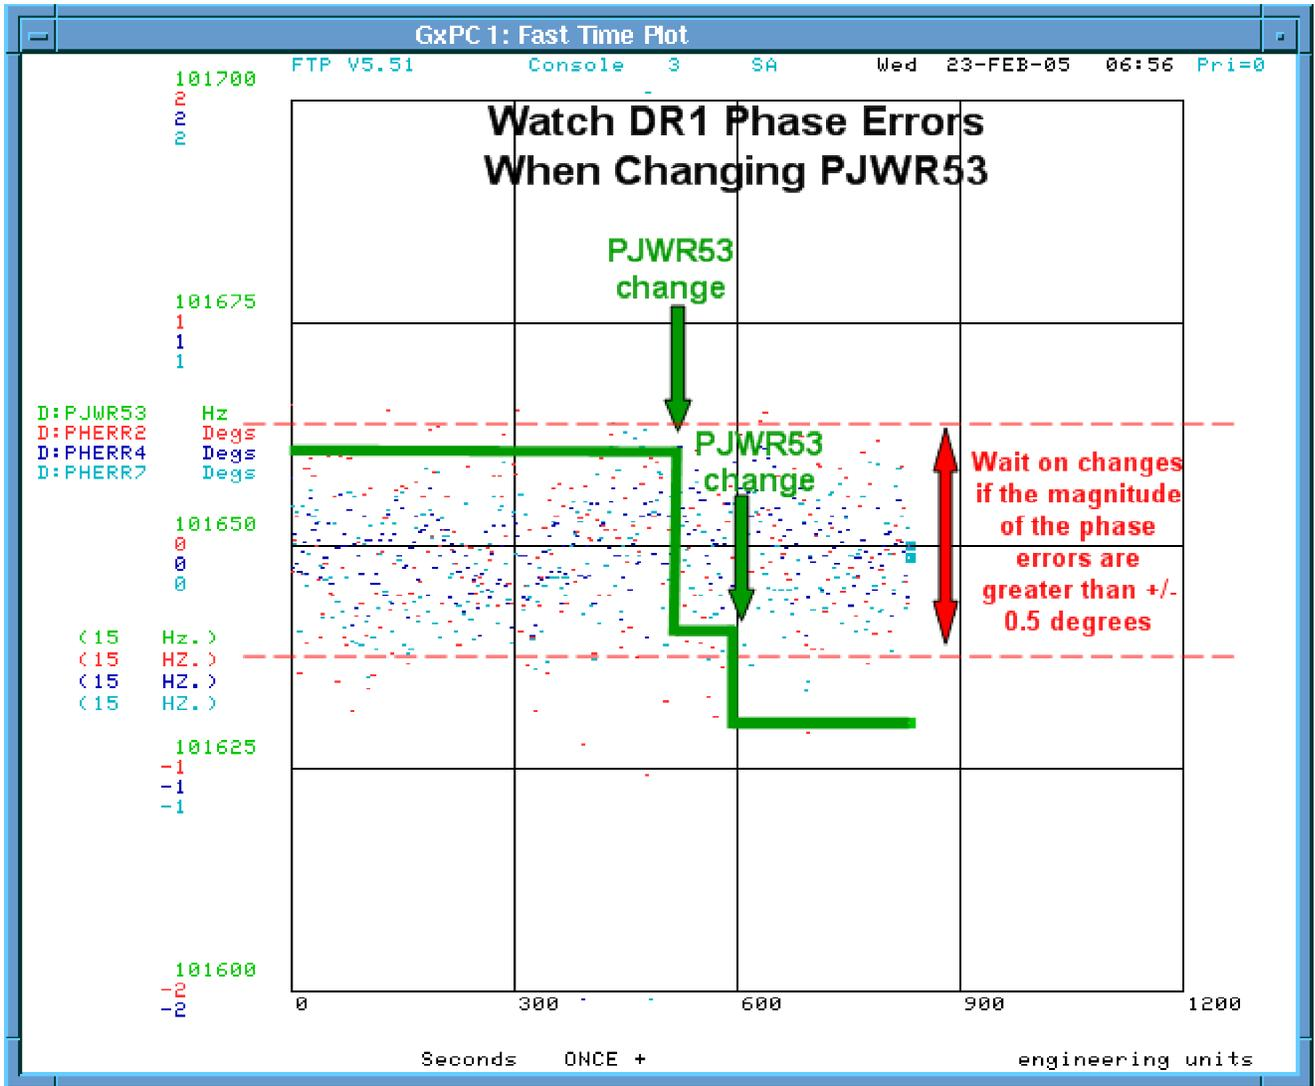

Figure 8:
- a. After any change to D:PJWR₅₃, plot any four of D:PHERR₂ - D:PHERR₄ once + from 0 to 1200 seconds and do not make any further changes until any phase oscillations caused by the change have been damped out. The phase errors should always be plus or minus a half of a degree as shown in Figure 8.